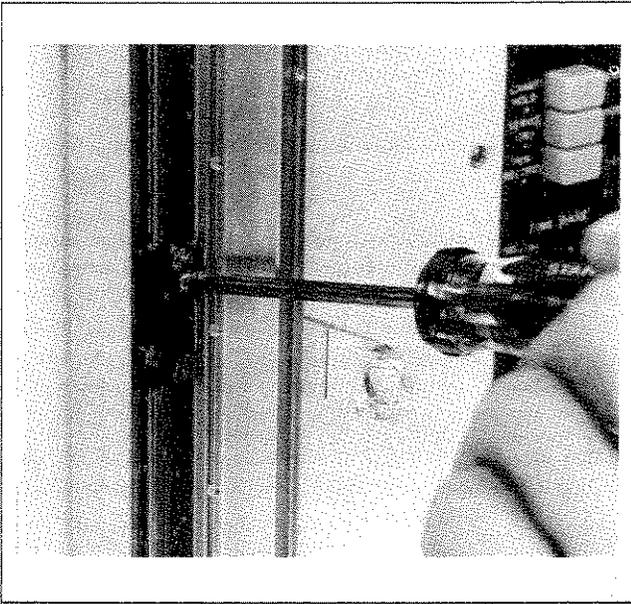

Figure 8-5. Y-Axis Cable Removal
- c. Loosen cable tension by loosening tension screw in Y slider block. See Figure 8-5.
b. Loosen cable tension screw in Y slider block. See Figure 8-5.